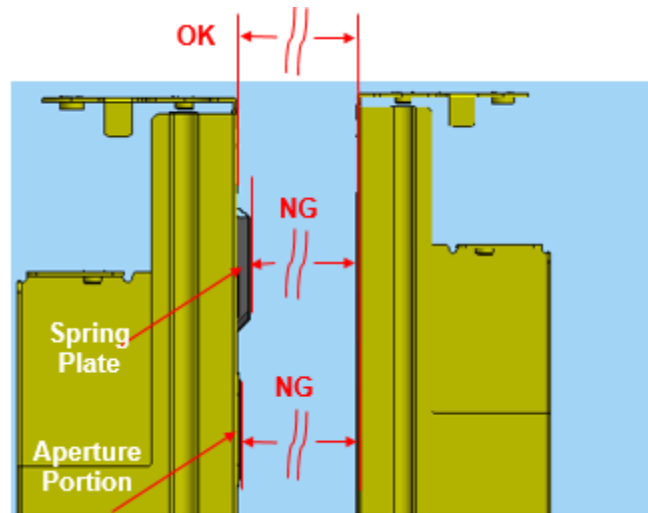

Fig. 4
- See Fig. 4 below for the correct and incorrect measuring positions.